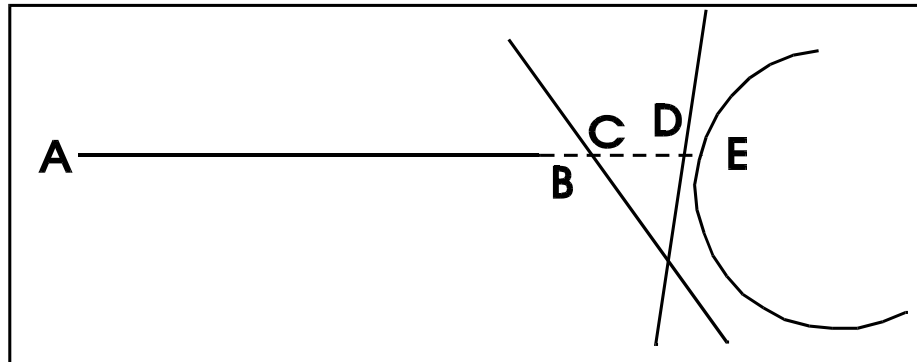

Figure 2.4.4. Linear extension example 4
- d) If a line can be extended to more than one element, it will be extended only as far as the closest one. In *Figure 2.4.4*, line AB will be extended to point C (not D or E).